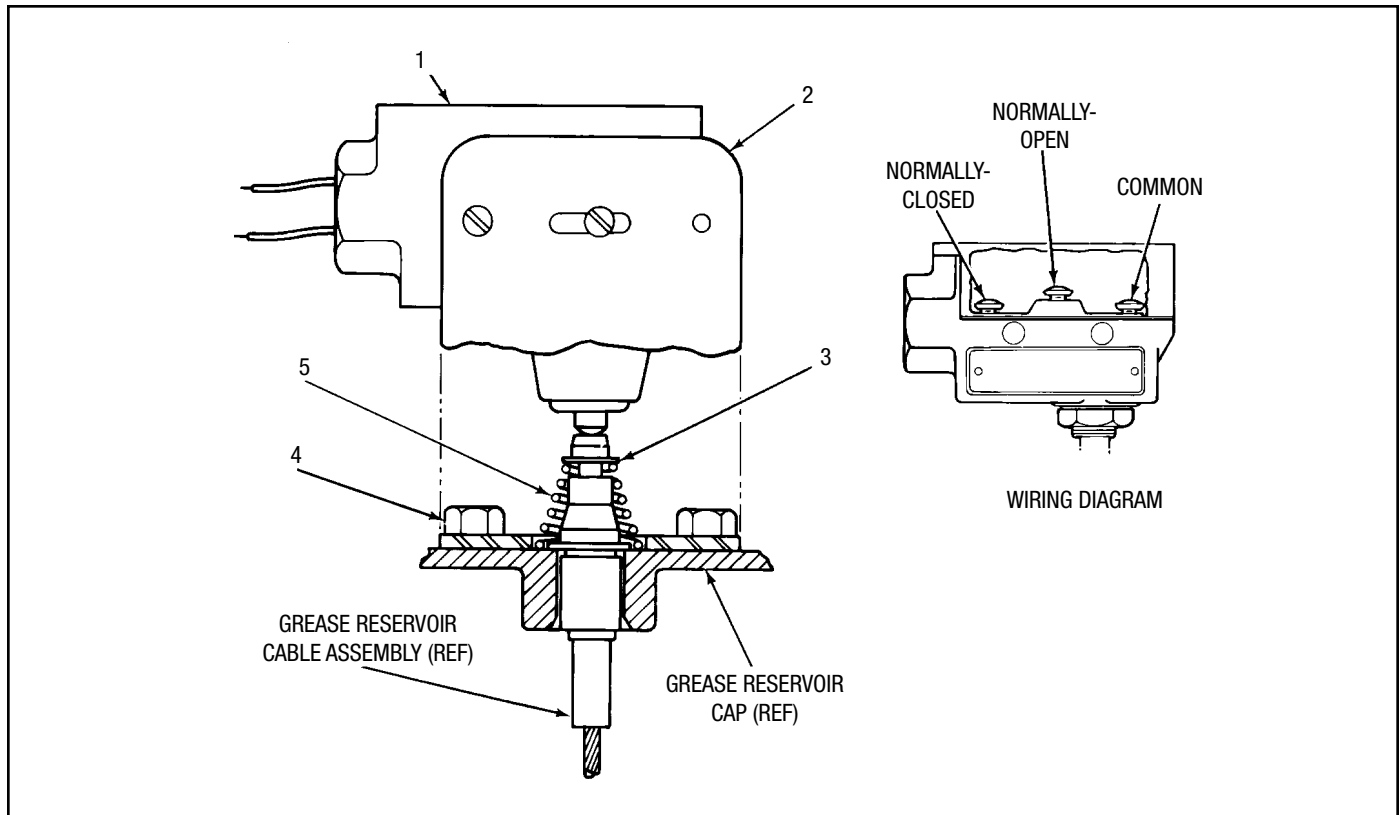

Figure 5-3. Grease Reservoir Low-Level Assembly
5.5.1 General. Maintenance tips, disassembly and assembly procedures for low-level assembly option LOC are discussed in Paragraphs 5.5.2, 5.5.3 and 5.5.4. A sectional view of a typical assembly is shown in Figure 5-3 and should be referred to during the discussion.
- Disconnect switch (1, Figure 5-3) from terminal box. Remove switch (1) from bracket (2).
- Remove retainer ring (3) and spring (5).
- Remove three self-tapping screws (4) and bracket (2).
Table 5-4 identifies the parts indexed in Figure 5-3.